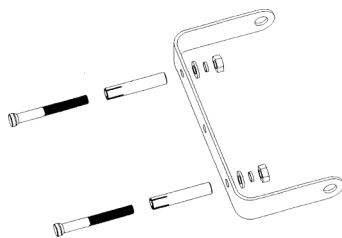
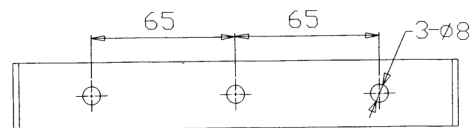

Fig.4
Fig.5
3) The reel in the lower bracket pin must be fixed with a bolt or lock to secure the safety. The mounting bracket has 2 holes, to the two holes on both ends there is a M8 Dyan Bolts corresponds. Each bolt must be with spring washer or padding (Fig4). Position of the two holes please sees Fig.5 (measurement in mm).